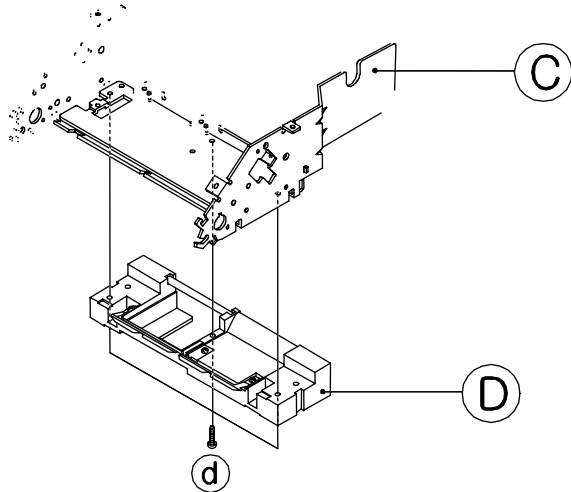

Figure 4-3. Stamp Paper Guide Removal
2. With the Upper Frame Assembly C, upside-down, position the Stamp Paper Guide Assembly, D, and replace the three screws - (d) (see Figure 4-3, above).